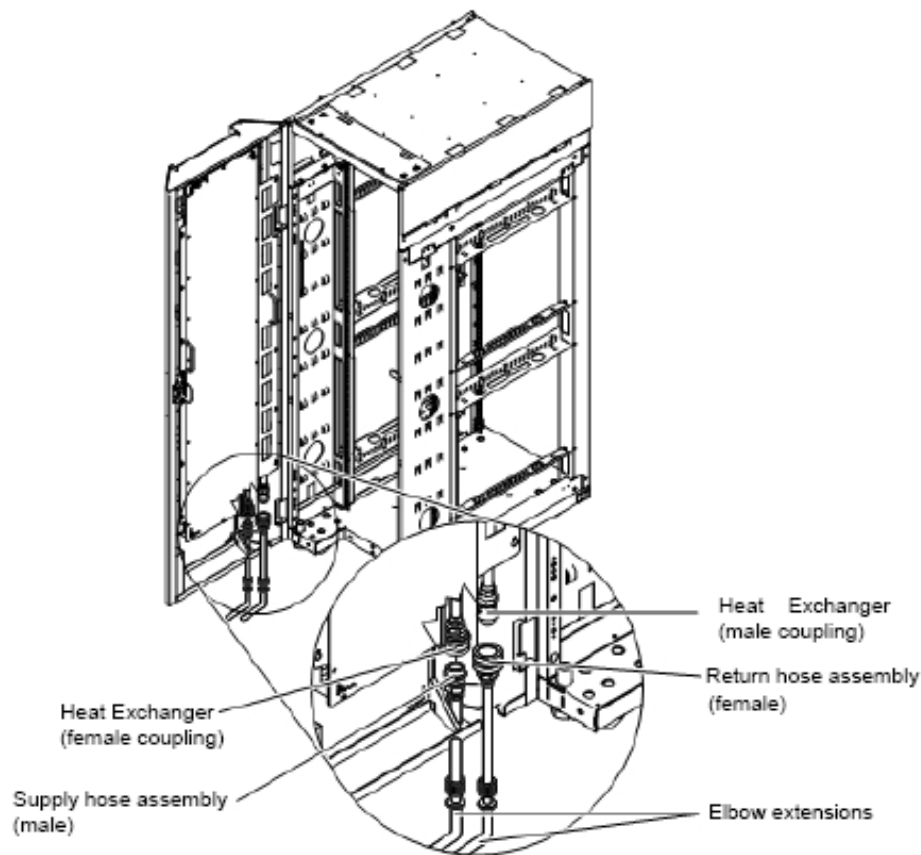

Figure 12. Non-raised floor hose requirements
2. When routing hoses between the RDHx and the floor using a bottom-fed RDHx, right angle hose kits are typically required. Straight hose assemblies cannot make the sharp bend to exit between the floor and the RDHx without kinking the hoses. Using right angle hose assemblies with metal elbows allows the hoses to be routed along the floor, make a 90° turn upwards within the gap between the bottom of the RDHx and the floor surface and then connect to the supply/return couplings. This is shown in Figure 12.